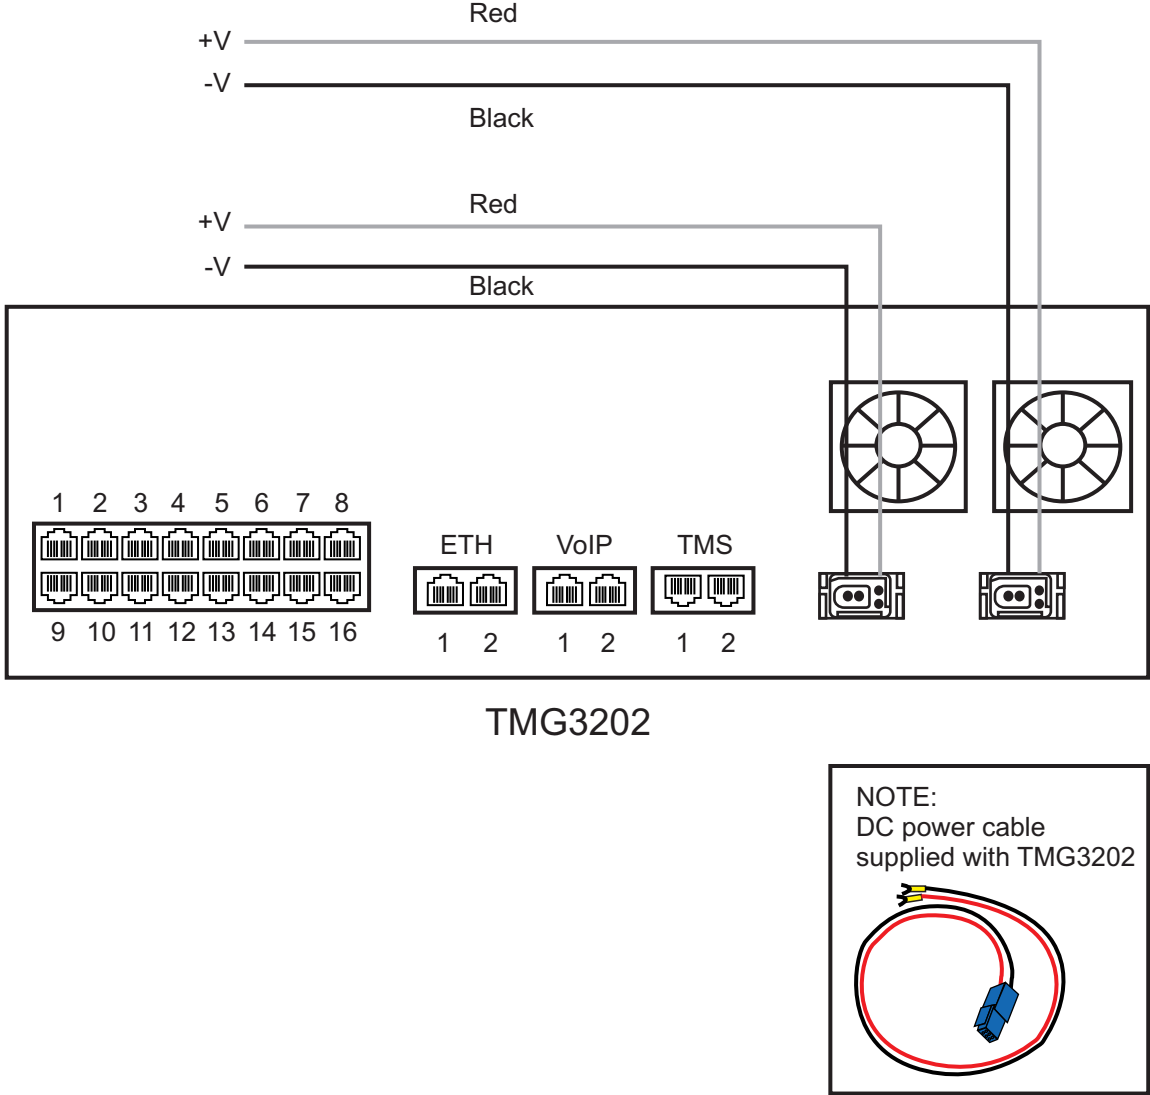

Figure 2.11 TMG5800 DC wiring diagram
- 1. Connect the DC cable supplied with the TMG5800, as shown in figure 2.11 on page 21, to the DC outlet at the rear of the TMG5800.
- 2. Connect the red lead of the DC power cable to the positive terminal of the DC power source, as shown in figure 2.11 on page 21.